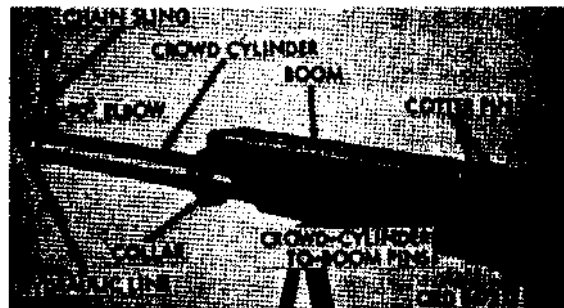

Figure 429. Removing boom crowd cylinder from boom
- (6) Pull boom from shipper, place boom on suitable supports, and remove hoist and chain sling.
- (7) Remove cotter pins (fig. 429) and crowd - cylinder - collar-to-boom, and pull cylinder from bmm far enough to permit attaching a chain sling.
- (8) Attach chain sling (fig. 429) and overhead hoisting equipment to crowd cylinder, and remove cylinder from boom.
- (9) Remove 90° elbow (fig. 429) with hydraulic line attached from crowd cylinder.
- (1) Install 90° elbow (fig. 429) with hydraulic line attached in port on top of crowd-cylinder head.
- (2) Supporting crowd cylinder with chain sling (fig. 429) and overhead hoisting equipment, slide cylinder into position inside boom. Remove hoist and chain sling.
- (3) Aline holes in crowd-cylinder collar (fig. 429) with holes in sides of boom